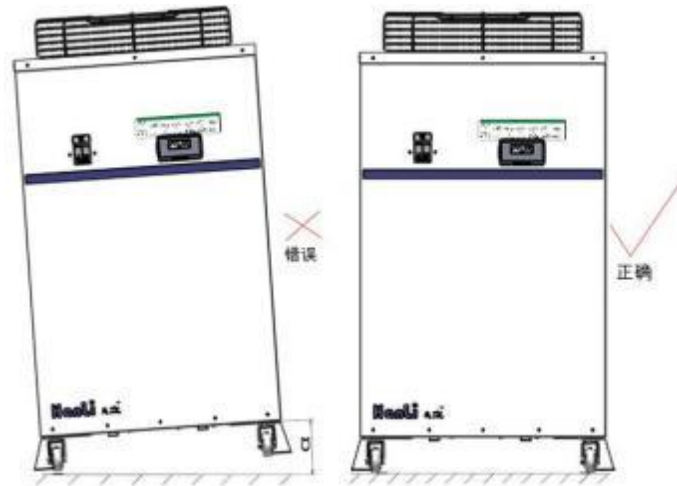

FIG. 3 Requirements for equipment installation form
- ➤ It must be installed horizontally and cannot be tilted, as shown in FIG. 3. Anchor bolts shall be used to fix casters-free equipment, and universal wheels shall be locked for equipment with caster.